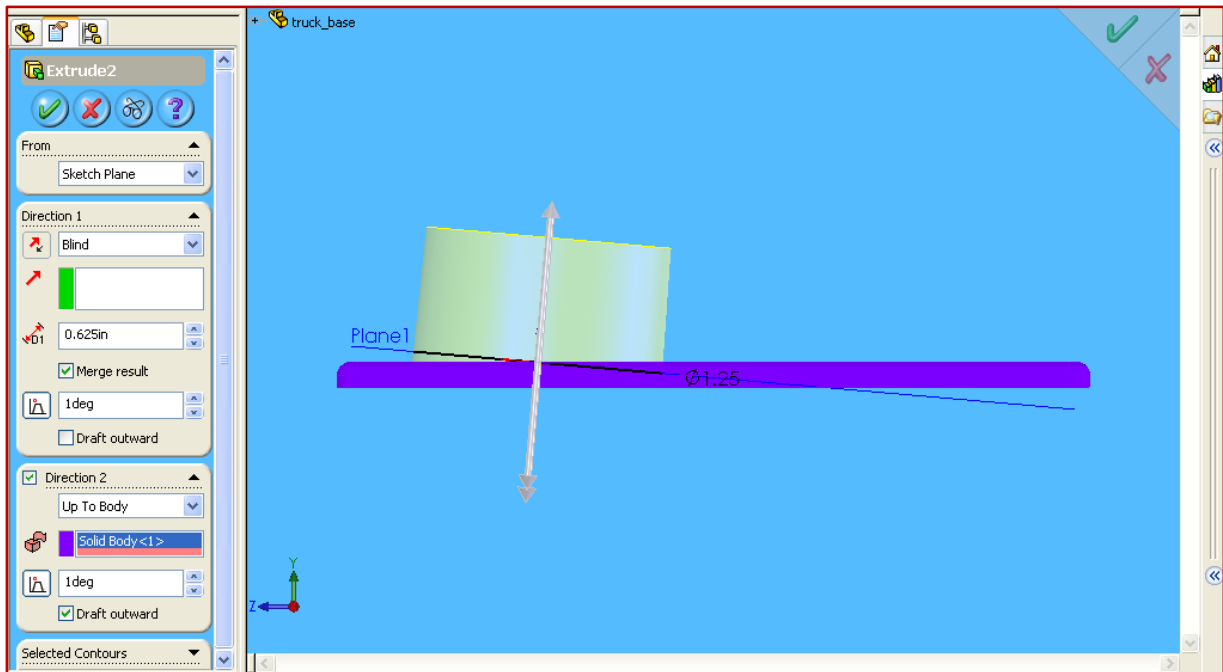

Figure 8.4 – Truck Base
- ✓ Click **Insert**→**Reference Geometry**→**Plane** and enter the top surface and the centerline we created in the previous step in the input boxes. This will rotate the top surface with the centerline as the axis of rotation. Rotate the top surface 5 degrees clockwise. See Figure 8.4.
- ✓ Experiment with the **Flip** option to see how it changes the new plane. Your new plane should match Figure 8.4.
Step 63: Extrude the cylinder in both directions as shown in Figure 8.4. Click the check mark to accept.